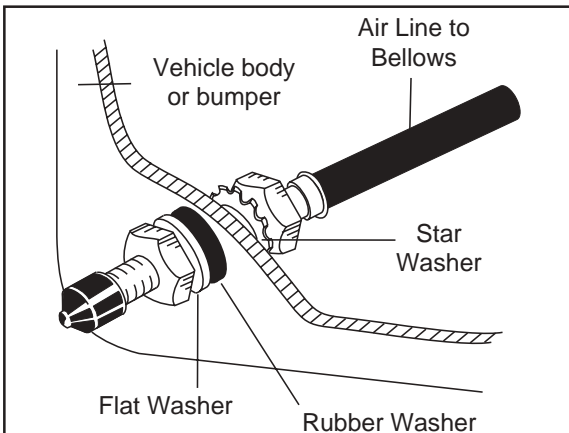

Figure 6
2. Drill a $\frac{5}{16}$ " hole to install the inflation valves (Figure 6).
3. Cut the air line assembly (AA) in two equal lengths.
4. Place a $\frac{5}{16}$ " nut (GG) and a star washer (FF) on the air valve. Leave enough of the inflation valve in front of the nut to extend through the hole and have room for the rubber washer (EE), flat washer (DD), and $\frac{5}{16}$ " nut (GG) and cap (CC). There should be enough valve exposed after installation - approximately $\frac{1}{2}$ " - to easily apply a pressure gauge or an air chuck.
5. Push the inflation valve through the hole and use the rubber washer (EE), flat washer (DD), and another $\frac{5}{16}$ " nut (GG) to secure it in place. Tighten the nuts to secure the assembly in place (Figure 6).